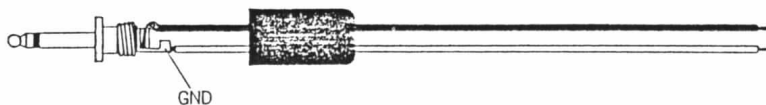

Figure 7
2. Please connect the key to the key jack as shown on Figure 7. When you make the key on and ON AIR pilot lamp lights, then RF level meter deflects and CW signal will be emitted.